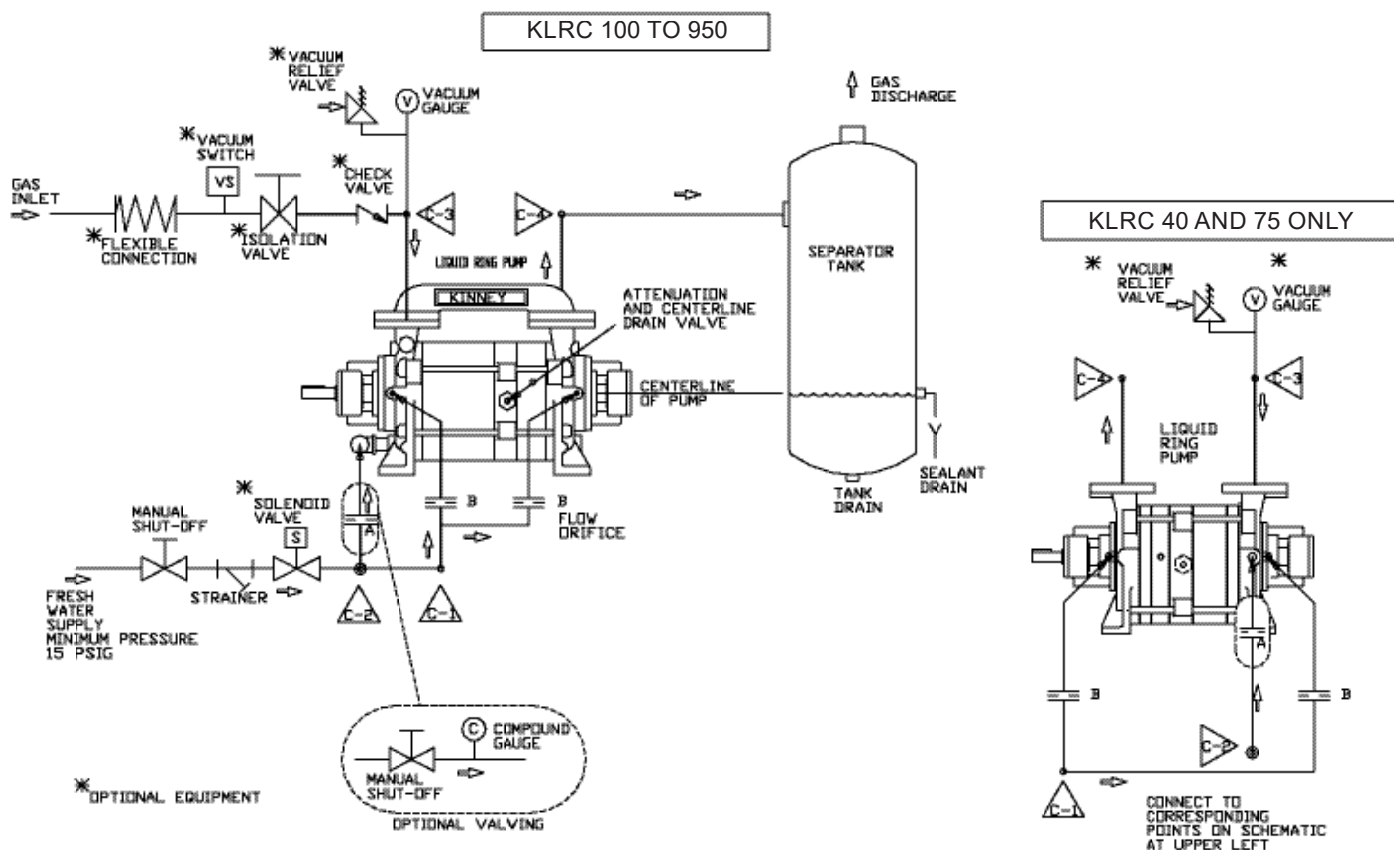

Figure 2. Piping Schematic Once - Through Recovery System
- Do not run the pump dry. Make sure sealant is piped to both seals; see Figures 2 through 5.
Figures 2 through 5 illustrate sealant configurations:
- Once-Through (Fig. 2)
See the Specification Table on page 5 for size of connections. Figures 2, 3, 4, and 5 show the connection locations for suction and discharge gas, sealant water and shaft seal cooling water of different pump models. Note that connections are different for KLRC-40 and -75 compared to the KLRC-100 to -950. Also shown are the valves and gauges as they should generally be located for any of the piping arrangements. Piping must be no smaller than the pump connection and must be aligned, and may have to be supported, so as not to place a strain on the pump.
Sealant must be piped to the mechanical seals in order to keep the seal faces cooled and lubricated. The seals will fail if a suitable flow of sealant is not supplied. The sealant must be clean and free of particulates, dirt or grit will cause the seal faces to wear and fail prematurely. Connect the sealant piping to the seals as shown in Figures 2 to 5; Note that the connections to the pump are different for KLRC-40 and -75 compared to the KLRC-100 to -950.
The suction and discharge ports are distinguishable by arrows on the pump, and are also shown in Figures 2 to 5. Note that the discharge port on the KLRC-40 and KLRC-75 are at the shaft drive end whereas on the KLRC-100 to KLRC-950 the discharge port is at the non-drive end. The discharge leg should not have more than 24 inches of elevation from the pump discharge flange. Too much elevation in this line would cause a build-up of back pressure, overload the motor and reduce the efficiency of the pump. During initial operation a screen should be installed across the incoming port of the suction end casing to prevent abrasive particles from entering the pump. The accumulation in the screen should be removed often enough to prevent restriction of gas flow, and the screen can be removed when particulate accumulation no longer occurs.